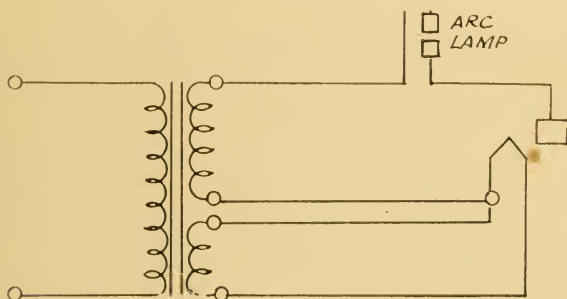
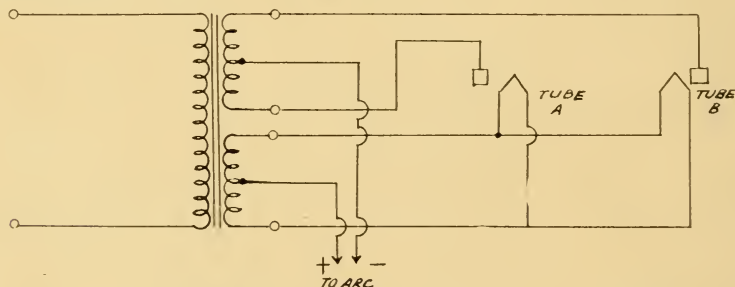
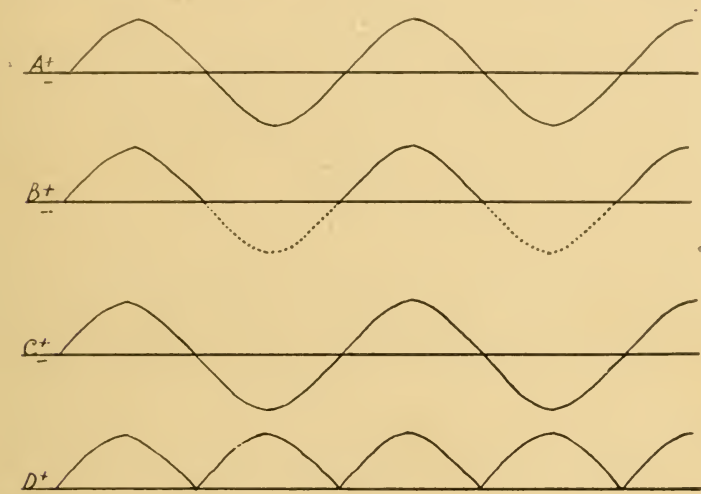

FIGURE 74A
FIGURE 74B
FIGURE 74C
action. Figures 74A, 74B and 74C offer a diagrammatic presentation of these principles.
(24) Fig. 74A shows, at the extreme left, a diagram of a transformer with two secondary windings. The lower winding is connected directly to the vacuum tube filament; the upper winding is connected to the vacuum tube plate through the arc. Observe that there is no metallic connection between the plate and the filament and so under ordinary conditions no current could or would flow.
(25) The lower transformer secondary would "short circuit" the filament were it not for the filament resistance. (26) The resistance permits just enough current to flow to raise the filament temperature to incandescence, (27) and in this condition it emits or throws off clouds of electrons, which may be regarded as minute particles of negative electricity. (28) Two points to remember are that at incandescence the filament emits and is surrounded by clouds of electrons floating in the vacuum and that these electrons are always negative.
(29) The upper or plate secondary of the transformer operates to charge the plate alternately with positive and negative voltage.
(30) To understand the action of a vacuum tube rectifier, consider first the period of time during which the plate secondary is positively charged, remembering that it will be positively and negatively charged at each alternation of the current.
(31) At the moment of time it is positively charged, the plate will also be positive. Therefore, since opposite polarities attract each other, it follows that the negatrons that hover around the negatively charged filament will rush to and enter the positive plate and continue to flow outward to and through the arc, constituting the current by which it is operated.
(32) Remember, when you note that the plate connects to the lower or negative arc lamp carbon, that today electricity is regarded as really flowing from negative to positive—a theory that seems proven by the action of vacuum tube rectifiers.
(33) While the tube plate is positively charged the flow of electrons from filament to plate is as free as though these two elements were connected by wire, making due allowance for differences in resistance. So long as the plate remains positive the arc circuit may be traced by following the current direction from negative to positive: (34) from the lower or negative end of the filament secondary to its center tap, thence to the filament and thence around its secondary coil circuit. From this current come the emitted electrons which flow through the plate and arc, and thence back to the upper transformer secondary.
(35) Passing on to the consideration of the next succeeding alternation of the mainline current, we discover that the secondary has reversed its polarity, which means that the plate is now also negatively charged. Since the electrons emitted by the filament are always negative, and like does not attract like, no electrons will flow to the plate, and therefore none to the arc. (36) Hence, as regards a single plate, only one "side" of the a. c. alternations can be used. Current flows through one-half of each alternation, but none flows during the succeeding half. Therefore, with one tube, we will have direct but very highly pulsating d. c. at the light source. All this is illustrated in Fig. 74A but it is a very undesirable type of rectifier for projection. Let us consider one more suited to the work.
(37) Fig. 74B shows a modification of Fig. 74A. The secondaries of the transformer are center-tapped,
rent) when B plate is negative, and vice versa. The lower secondary of the transformer lights the filaments, and also serves as part of the conducting path for the circuit originating in the upper secondary. Electrons flow from either filament to the plate that is positive at the moment, thence to the center-tap of the plate secondary, thence through the projection arc, thence to the center-tap of the filament secondary, and thence back to the filament from which they were emitted. The current through the arc is always in one direction, but drops to zero twice in each cycle, at those moments when the charge on one plate is just changing from positive to negative while the charge on the other is just changing from negative to positive. The pulsations in d.c. output are, however, much less than in the case of Fig. 74A, in which no current at all flows through the arc during a full half of each cycle. (38 The difference is diagrammatically illustrated in Fig. 74C in which A represents the "full wave" a.c. wave and B the portion
Whenever a high amperage, or a current of exceptional smoothness, is required, it is possible to use a 3-phase rectifier which has six tubes. It is the circuit shown in Fig. 74B repeated three times—once for each of the phases of a 3-phase transformer, the d. c. outputs being wired in multiple.
(41) Tube rectifiers such as we have described have no moving parts, so there is nothing except the tubes themselves to wear out or cause trouble. Sometimes—but rarely—the transformer may burn out through overheating. Usually the primary coil is tapped to permit compensation for high or low line voltage. (42) Their temperature should be checked occasionally and if found to be consistently high, proper compensation should be made to reduce primary voltage. Usually a tap switch is provided for the purpose.
(43) If either tube shown in Fig. 74B should burn out, the rectifier will not stop working entirely but will continue to function as a half-wave rectifier. Screen illumination will be cut down by one-half and the light will start to flicker. Tubes rarely burn out but do de-